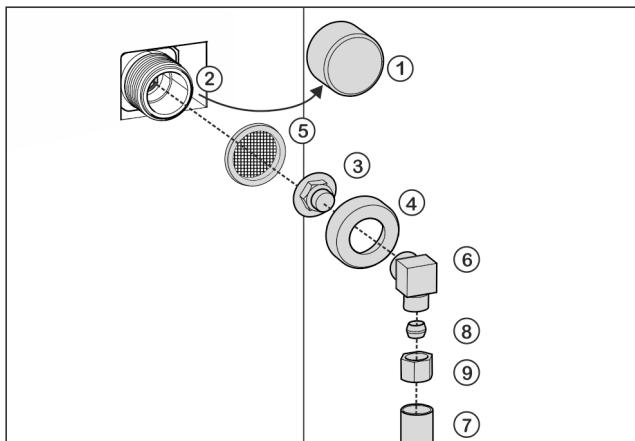

Fig. 25
- Remove cap Fig. 25 (1) from solenoid valve Fig. 25 (2).
- Insert coupler Fig. 25 (3) into union nut Fig. 25 (4).
Improper installation of water filter Fig. 25 (5)!
- Insert water filter Fig. 25 (5) with the recess pointing down towards coupler Fig. 25 (3).
- Attach union nut Fig. 25 (4) to solenoid valve Fig. 25 (2) and tighten.
- Screw on angle piece Fig. 25 (6).
- Connect water pipe Fig. 25 (7) (e.g. copper) to angle piece Fig. 25 (6) using clamp ring Fig. 25 (8) and nut Fig. 25 (9).
- Attach water pipe Fig. 25 (7) to the housing if possible, using the clip bracket.
- Put angle piece Fig. 25 (6) to one side.
- Connect water pipe Fig. 25 (7) (e.g. copper) to coupler Fig. 25 (3) using clamp ring Fig. 25 (8) and nut Fig. 25 (9).